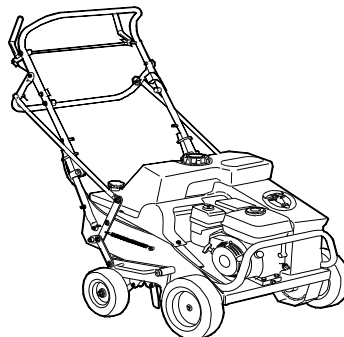

Fig 3
1. Remove the lock nuts (item 50) that secure the handle, one on each side, to the lower handle mounting studs.
2. Loosen the handle mounting bolts (item 51), one on each side, (See Fig. 3) and push the handle out and away from the lower handle mounting studs.
4. Completely tighten the handle mounting bolts (item 51), and replace the lock nuts (item 50) to secure the handle in place.
This unit is equipped with a folding upper handle for easier storage. **TO FOLD THE HANDLE** (See Fig. 3):